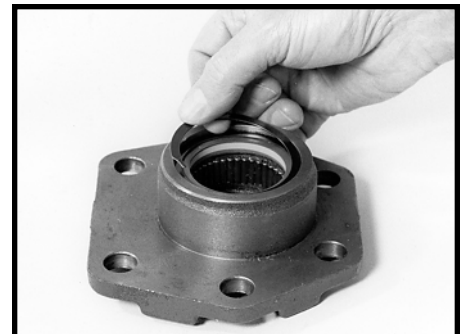

Figure 141
- 34. Assemble the side cover retaining ring (53) into the ring groove of the side cover (58) if required. SEE FIGURE 141.